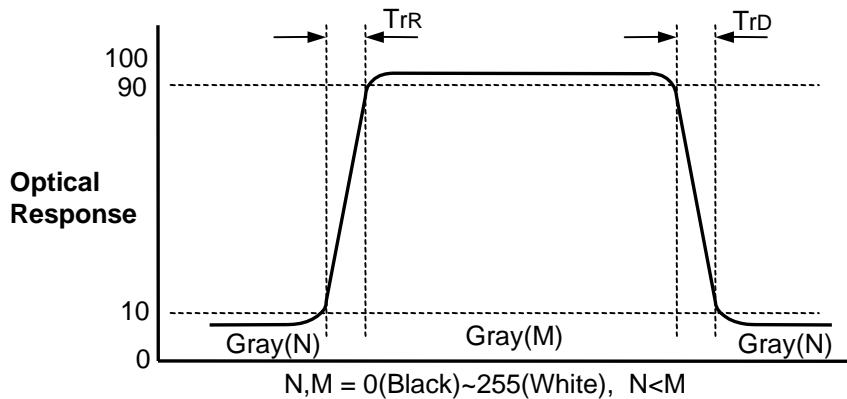

FIG. 3 Response Time
4. Response time is defined as the required time for the transition from G(N) to G(M) (Rise Time,  $Tr_R$ ) and from G(M) to G(N) (Decay Time,  $Tr_D$ ). For additional information see the FIG. 3. (N<M)